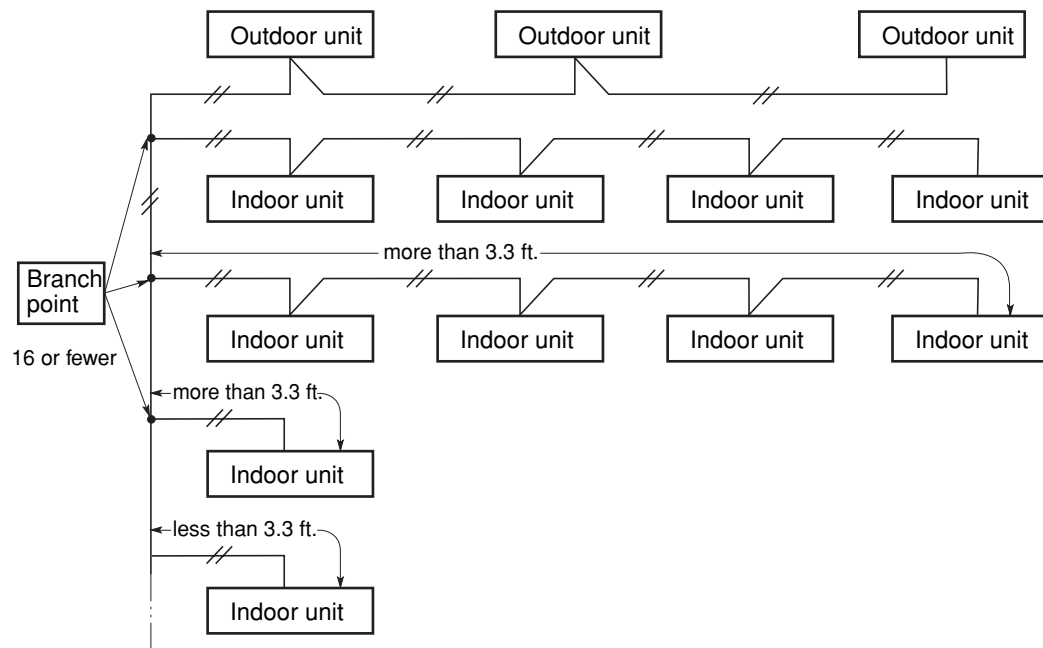

Fig. 4-3
- (4) If branching the inter-unit control wiring, the number of branch points should be 16 or fewer. (Branches less than 3.3 ft. are not included in the total branch number.) (Fig. 4-3)